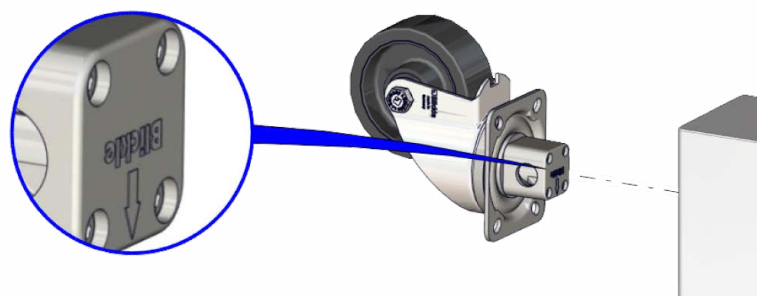

Fig 3.10 Fitting of Rear Braked Castors
- Insert castor into base frame with arrow on top of boss facing forwards (Fig 3.10).